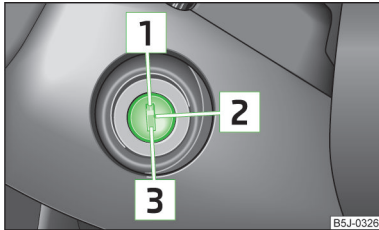

Fig. 107
- When driving, the ignition key must always be in the position  » Fig. 107 on page 107 (ignition switched on) without the engine running. This position is indicated by the warning lights coming on. If this is not the case, this could result in unexpected locking of the steering wheel – risk of accident!
- The starter must only be operated when the engine is not running and the vehicle is at a standstill. The starter or engine can be damaged if the starter is activated when the engine is running  » Fig. 107 on page 107.
Petrol engines » Fig. 107
Diesel engines » Fig. 107
If the **steering is locked** and the key cannot be turned or can only be turned with difficulty to position **2** » Fig. 107, move the steering wheel back and forth and the steering lock will unlock.
- Switch on the ignition **2** » Fig. 107 on page 107.
Switch off the engine by turning the ignition key to position **1** » Fig. 107 on page 107.